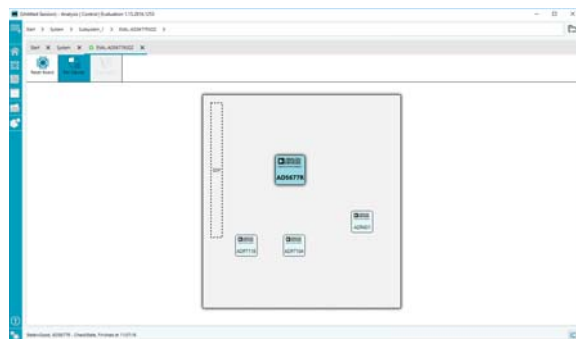

Figure 2. Board View of the EVAL-AD5677RSDZ
3. Double-click the board plug-in to open the board view shown in Figure 2.